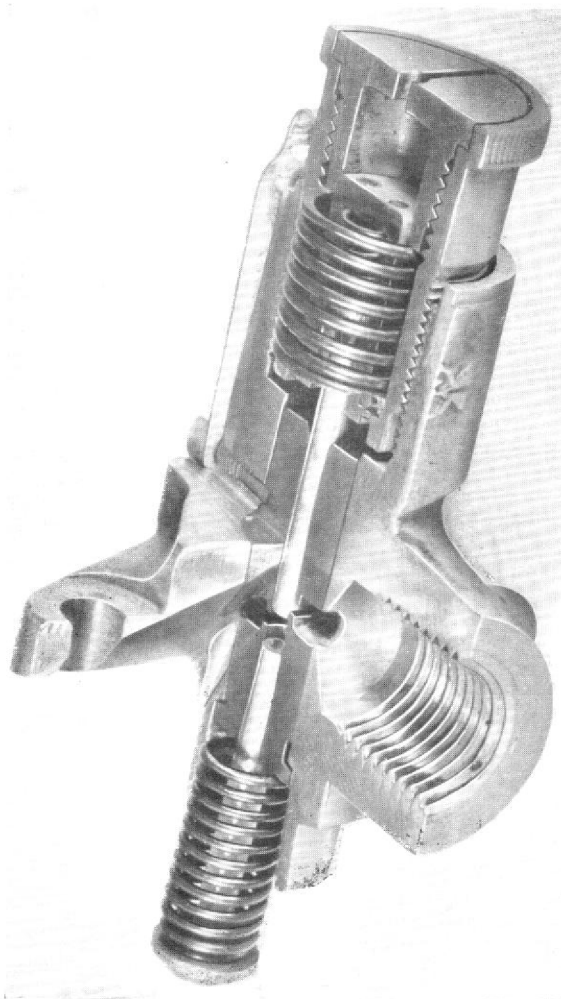
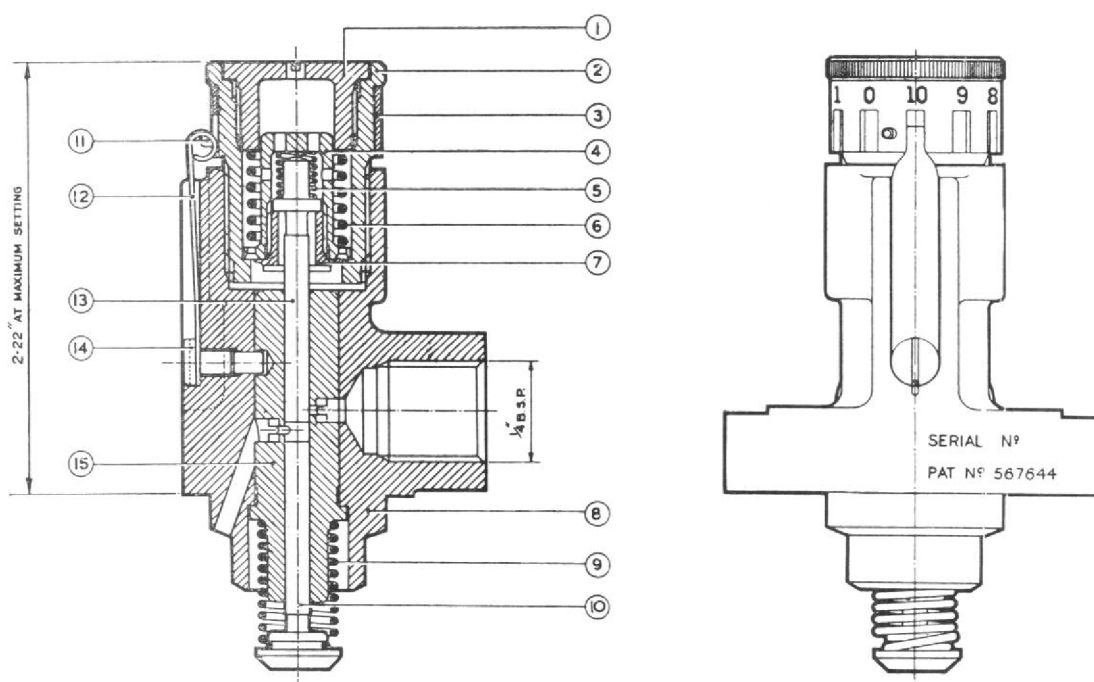

Fig. 1. Sectioned micro pump. (Pre Mod. 1290)
Fig. 2. Micro pump assembly. (Pre Mod. 1290)
Each metering pump (Fig. 1 and 2) consists of a light alloy forging (8-Fig. 2) into which is fitted a meehanite cylinder (15-Fig. 2) with a plain bore. The cylinder carries two pistons (10 and 13-Fig. 2) in opposition to each other. The pumping piston (10) contains a tappet head which bears on a cam extension of the oil pump driving shaft. A coil spring (9-Fig. 2), which is fitted under the tappet head and surrounds an extension of the cylinder, ensures that the tappet maintains contact with the cam. The position of the metering piston (13) in relation to the pumping piston is adjusted by a knurled nut (2-Fig. 2) screwed into the pump body forging. Eleven equally spaced notches (3-Fig. 2), which are numbered from 0 to 10, are cut in the outer periphery of the knurled nut. A flat spring-steel tongue (12-Fig. 2) engages in a notch and locks the nut in a specific position which gives an indication of the quantity of oil that is delivered by the pump. Later issues are fitted with a gauze filter in the adjusting head cap to prevent the ingress of foreign matter. (Mod. 1290).